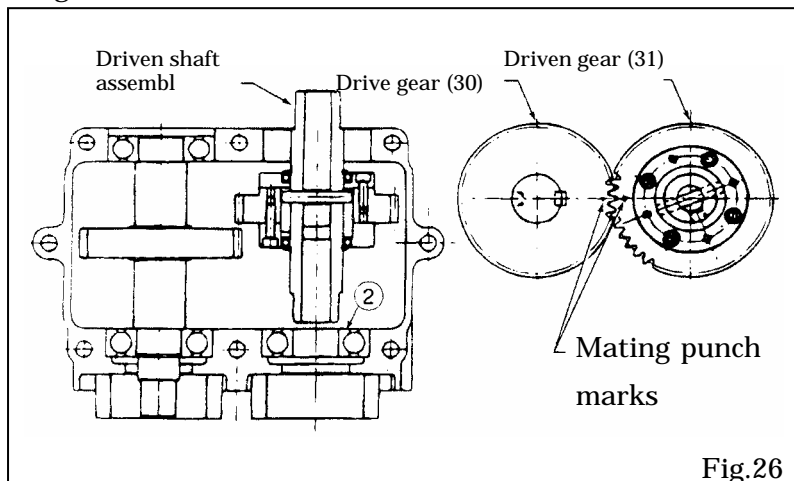

Fig.26
7. Fit the driven shaft assembly to vibrator case and after aligning the punch marks of drive gear (30) and driven gear (31), insert it to bearing (2). (See Fig.26 and 27.)